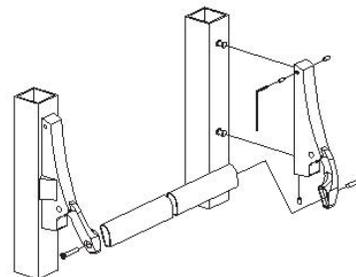

Figure 4
8. Install crossbar and inactive housing (Figure 4). Tighten inactive housing set screws and fasten crossbar with Taptite screws (item No. 16 in "Series 2090 Parts List," page 4).